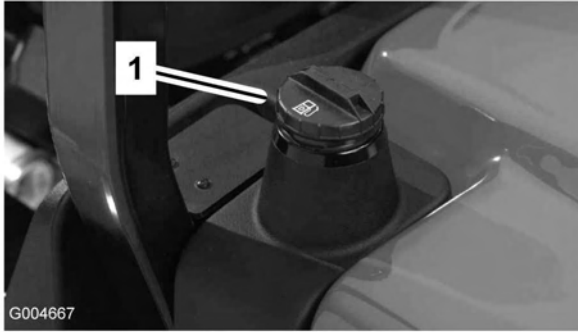

Figure 8
- Remove cap from the fuel tank (Figure 8).